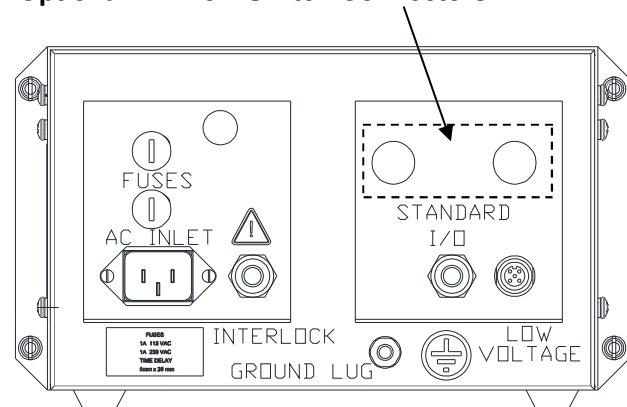

Figure 4: 9060 Connection Interface
The 9060 Controller connection interface shown in Figure 4, provides all of the required connections for setting up either a remote I/O controlled painting system or a local controlled painting system. This connection interface consists of one (1) low voltage cable connector, one (1) standard I/O connector, one (1) interlock I/O connector, one (1) ground lug connection, one (1) air flow switch connection, two (2) fuses, and one (1) AC inlet receptacle.